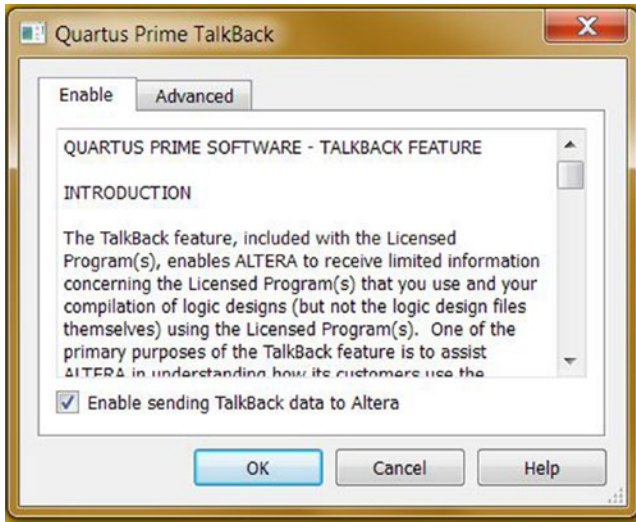

Figure 3-19. *Quartus Prime TalkBack*
- In order to use the free edition, you need to enable sending TalkBack data to Altera (Figure 3-19). Check **Enable sending TalkBack data to Altera** and Click **OK**.